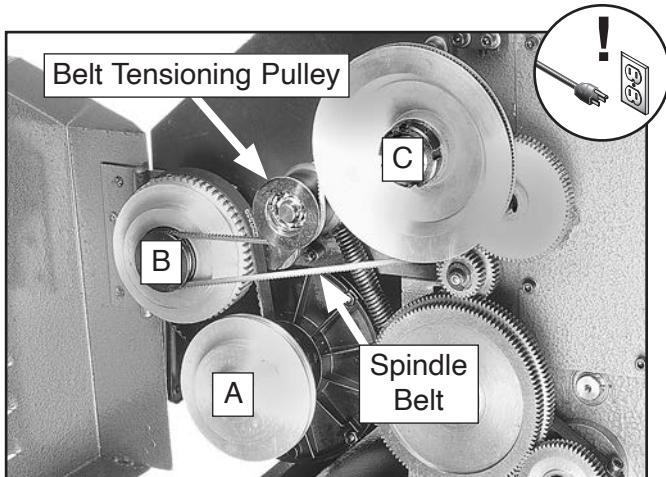

Figure 45. Spindle speed pulleys and spindle belt.
3. Open the change gear cover and use **Figure 45** to identify the motor (**A**), idler (**B**), and spindle (**C**) pulleys, the spindle belt, and the belt tensioning pulley.